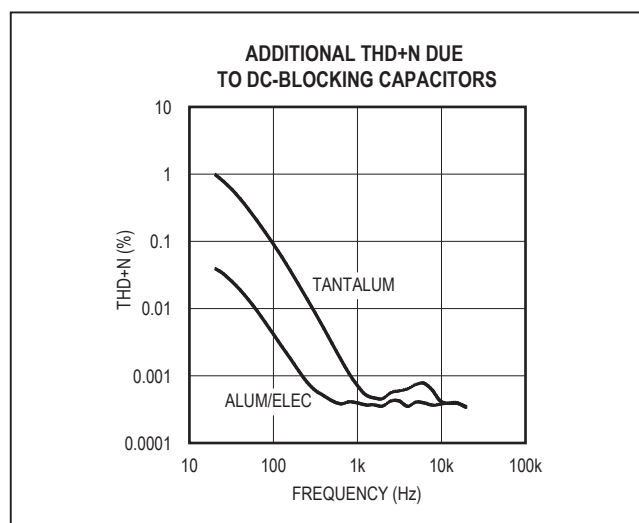

Figure 3. Distortion Contributed by DC-Blocking Capacitors
- 2) The voltage coefficient of the DC-blocking capacitor contributes distortion to the reproduced audio signal as the capacitance value varies and the function of the voltage across the capacitor changes. The reactance of the capacitor dominates at frequencies below the -3dB point and the voltage coefficient appears as frequency-dependent distortion. Figure 3 shows the THD+N introduced by two different capacitor dielectric types. Note that below 100Hz, THD+N increases rapidly. The combination of low-frequency attenuation and frequency-dependent distortion compromises audio reproduction in portable audio equipment that emphasizes low-frequency effects such as in multimedia laptops, MP3, CD, and DVD players. By eliminating the DC-blocking capacitors through DirectDrive technology, these capacitor-related deficiencies are eliminated.